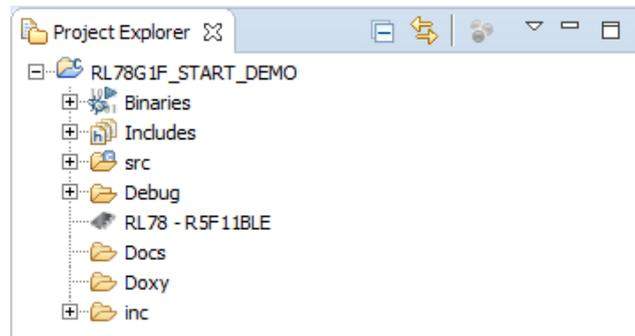

Figure 10: Project Explorer Panel after Import
- 6) Project should look like Figure 10: